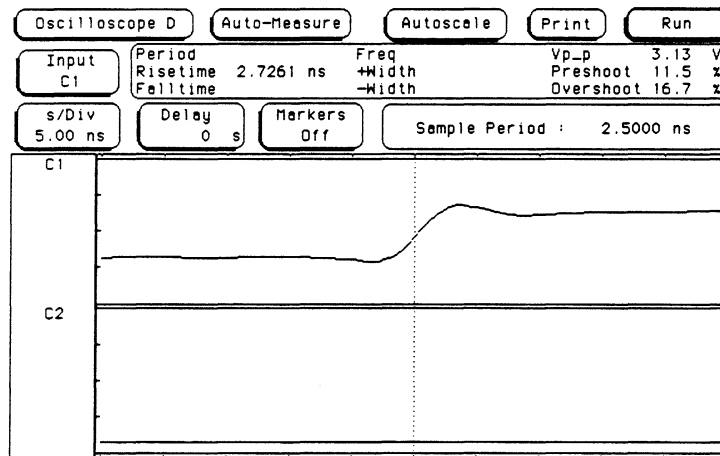

Figure 4-33. Square Wave Response
- i. Adjust R83 for flattest square wave response. Allow a few seconds for averaged display to stabilize. See figure 4-33.